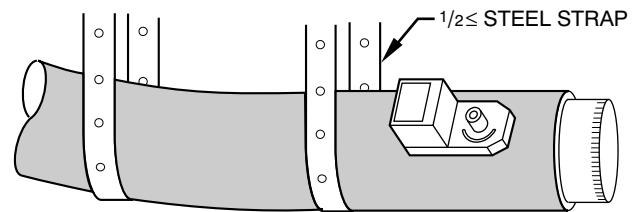

Fig. 6 – Insulated Round Flexible Ductwork
4. If dampers are applied in an unconditioned space, insulate them using 1- 1/2 inch to 2 inch insulation (See Fig. 6).